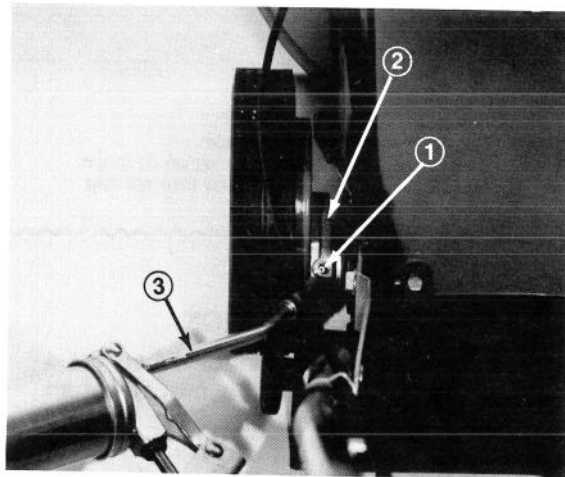

Figure 29
1. Set height-of-cut to center height setting (C).
2. Install grease gun onto fitting and apply grease (Fig. 29). (Approximately 2-3 pumps.)